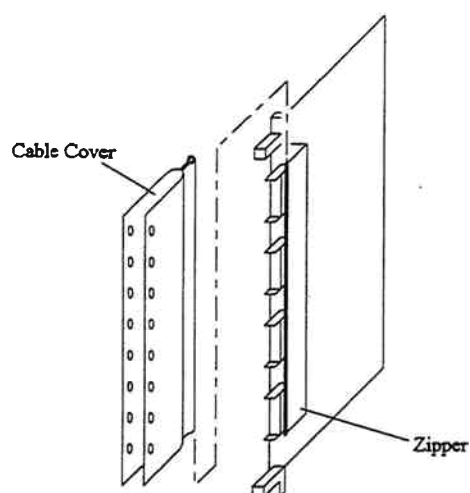

Fig. 3.7.3.3-9 Transfer of Cable Cover
- a. Insert the PCBs to the correct locations in the Logic Box. Refer to Table 3.7.3.3-4 and Fig. 3.7.3.3-10.